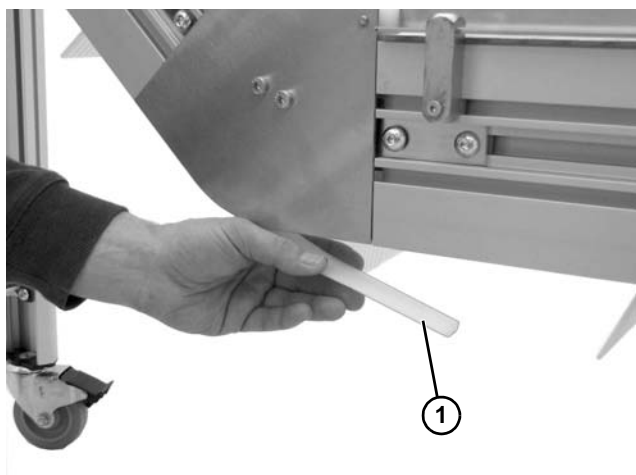

Figure 104
3. Remove lower wear strip (**Figure 104, item 1**).